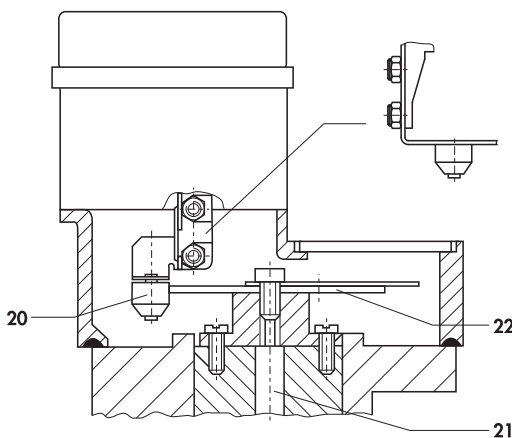

Fig. 8 · Transmission of rotary motion to the positioner
The travel is transmitted to the pick-up lever (1) via the pin (1.1) in globe valves. Whereas, in rotary valves (Fig. 8), a cam follower roll (20) is attached to the front end of the pick-up lever (1) which follows the rotary motion of a cam disk (22) on the actuator shaft (21). The force of the range spring (4) is changed by the linear motion of pick-up lever.